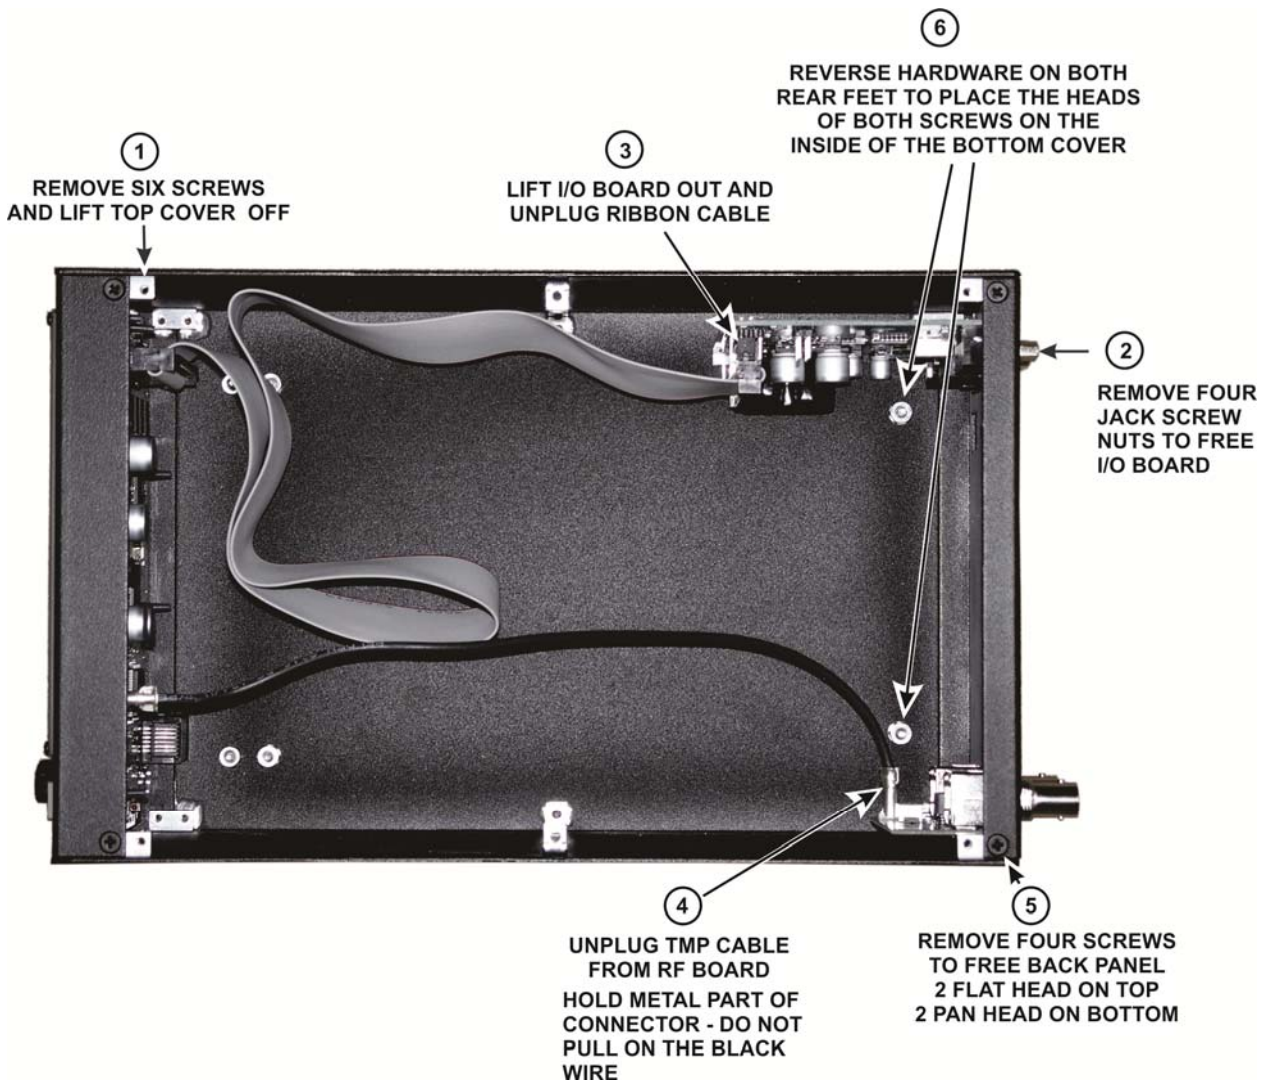
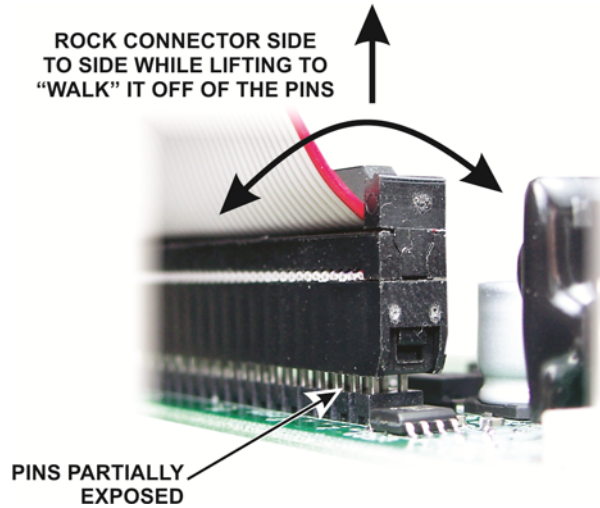
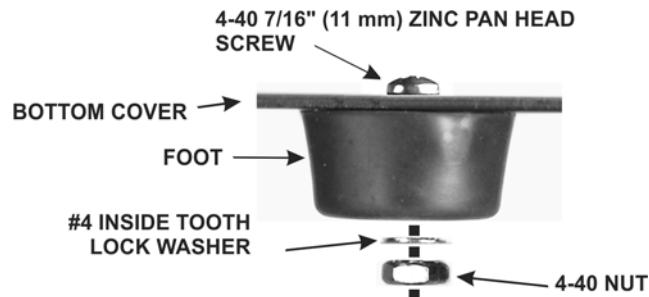
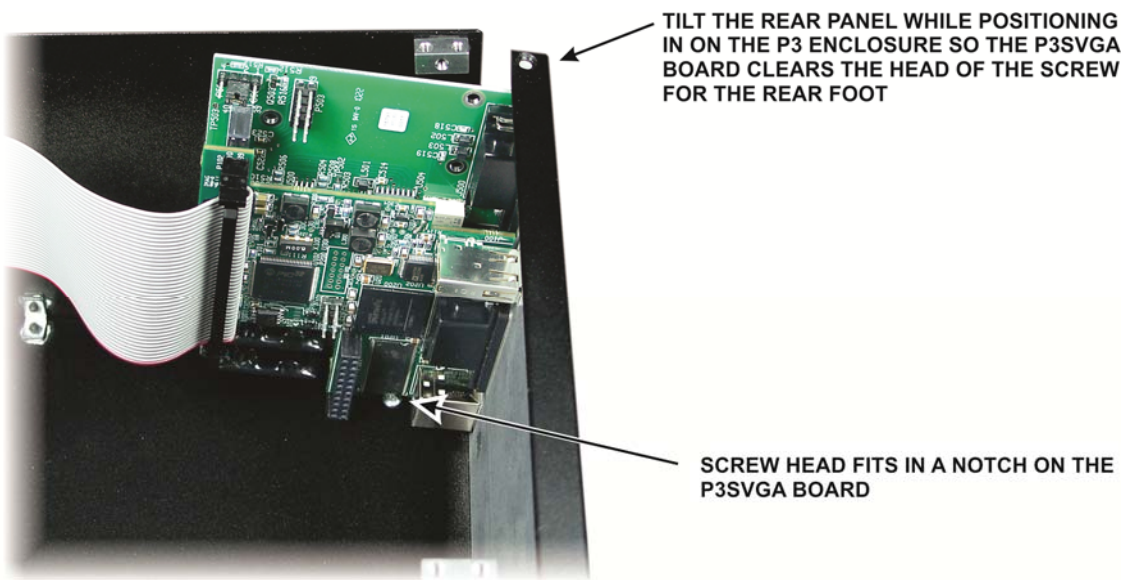

Figure 2. Preparing the P3 to Install the P3SVGA Board.
Figure 3. Unplugging the Ribbon Cable from the I/O Board.
Figure 4. Reversing the Foot Hardware.
Figure 9. Replacing the Rear Panel on the P3.
- Remove the six screws to free the top cover ( Figure 2 (1) ) and lift the cover off. There is a slot at one end that you can use to lift the cover once it is free.
- Remove the four jack screw nuts and lock washers to free the I/O board (Figure 2 (2) )
Lift the I/O board out of the P3 and unplug the ribbon cable (Figure 2 (3)). Take care not to damage the board. Hold the board while working the connector side to side to “walk” it off of the pins as shown in Figure 3.
Unplug the TMP coaxial cable from the RF board (Figure 2 (4)). This is a friction-fit connector. Do not pull on the black coaxial cable. Grip and pull only on the metal connector.
Remove the four screws holding the rear panel in place (Figure 2 (5)) and lift the rear panel off of the P3.
Remove and reverse the mounting hardware for both rear feet as shown in Figure 2 (6). Install the hardware as shown in Figure 4.
- Replace the rear panel assembly on the P3 as shown in Figure 9. Tilt the assembly so the P3SVGA board does not strike the screw head for the rear foot. The screw head fits in a notch on the P3SVGA board. Secure the rear panel assembly with the screws you removed earlier (Figure 2 (5)).
- Reconnect the TMP cable to the rear panel RF board (Figure 2 (4)).